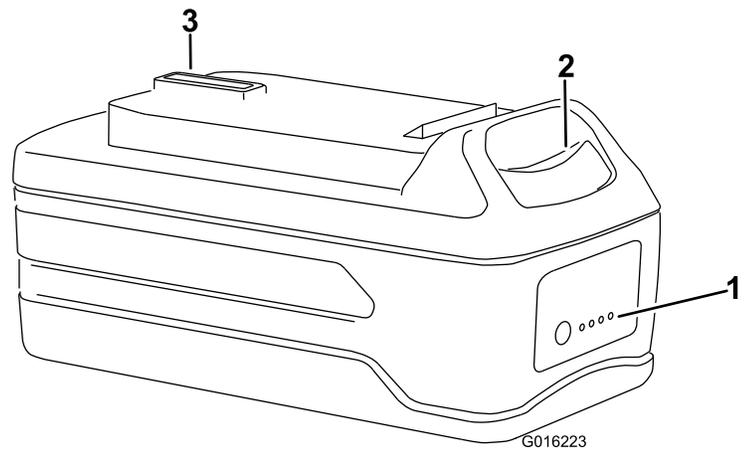
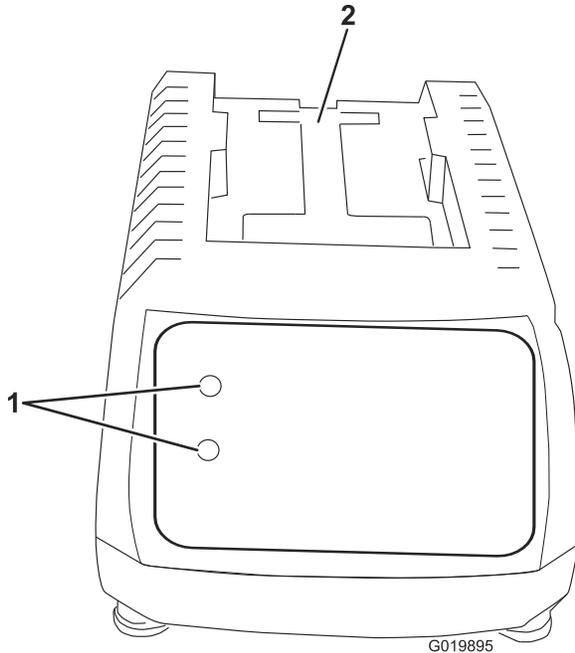

Figure 9
Figure 8
1. Turn the battery upside down and line up the battery terminal with the slot in the charger (Figure 8 and Figure 9).